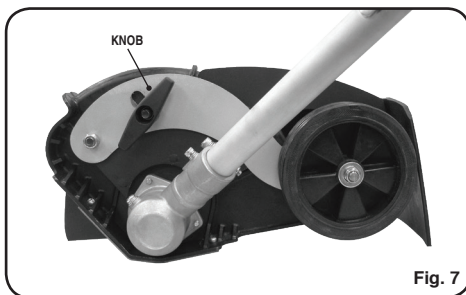

Fig. 7
1. Loosen knob and rotate the wheel assembly upward or downward to regulate the cutting depth of the blade. Retighten knob before operating. (See Fig. 7)